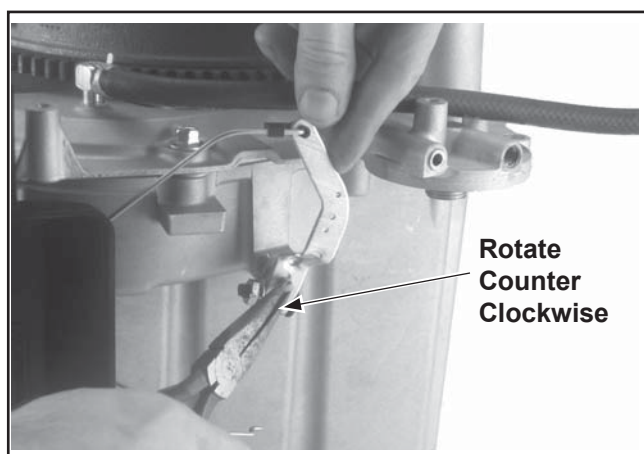

Figure 10-69. Adjusting Governor and Linkage.
2. Move the governor lever toward the carburetor, to the limit of its travel (wide-open throttle) and hold in this position. Do not apply excessive pressure, flexing or distorting the linkage. Grasp the cross shaft with a pliers, and turn the shaft counterclockwise as far as it will go. See Figure 10-69. Torque the hex nut to 7.0-8.5 N·m (60-75 in. lb.).